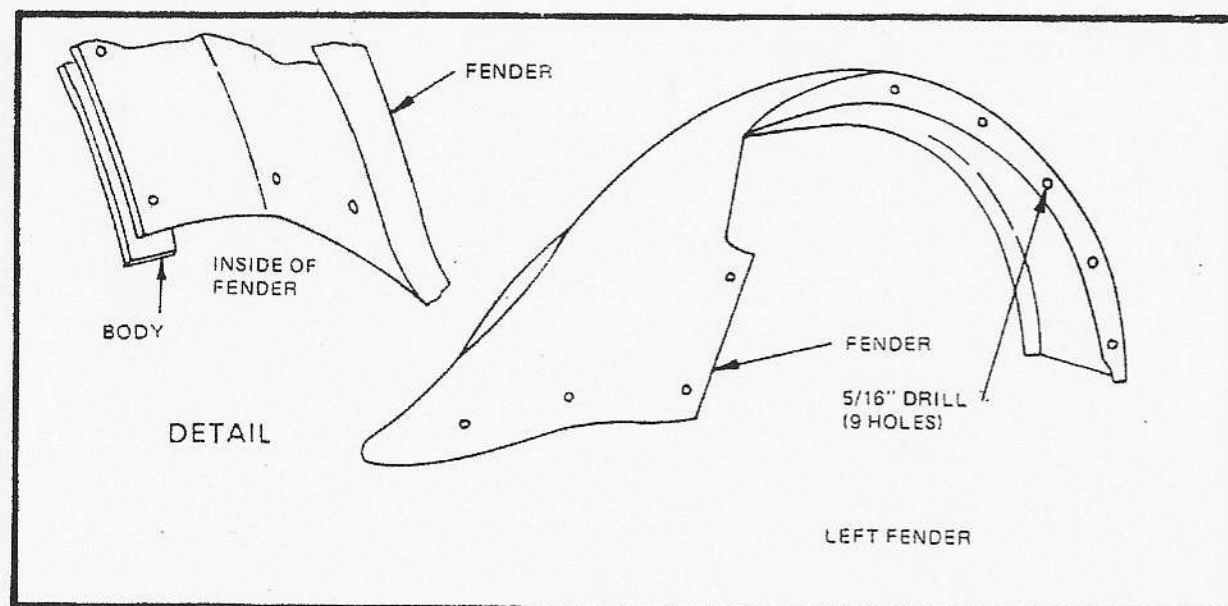

Figure 58
- ☐ Drill as per diagram ($\frac{5}{16}$ "). (Figure 58)